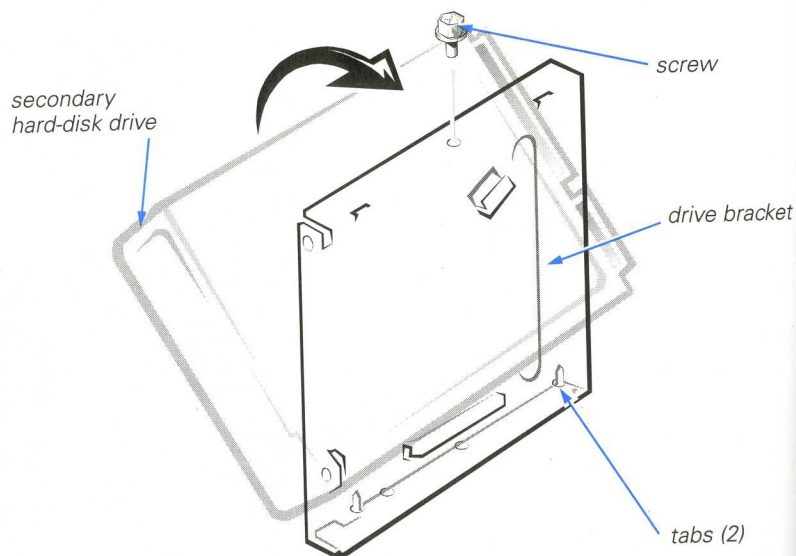

**Figure 3-13. Secondary Hard-Disk Drive Bracket**
6. Orient the new drive with its circuit board facing the inside of the bracket. Align the two tabs on the inside of the bracket with two screw holes in the side of the drive, and rotate the drive into the bracket as shown in Figure 3-13. Secure the drive to the bracket with one screw on the side opposite the tabs.